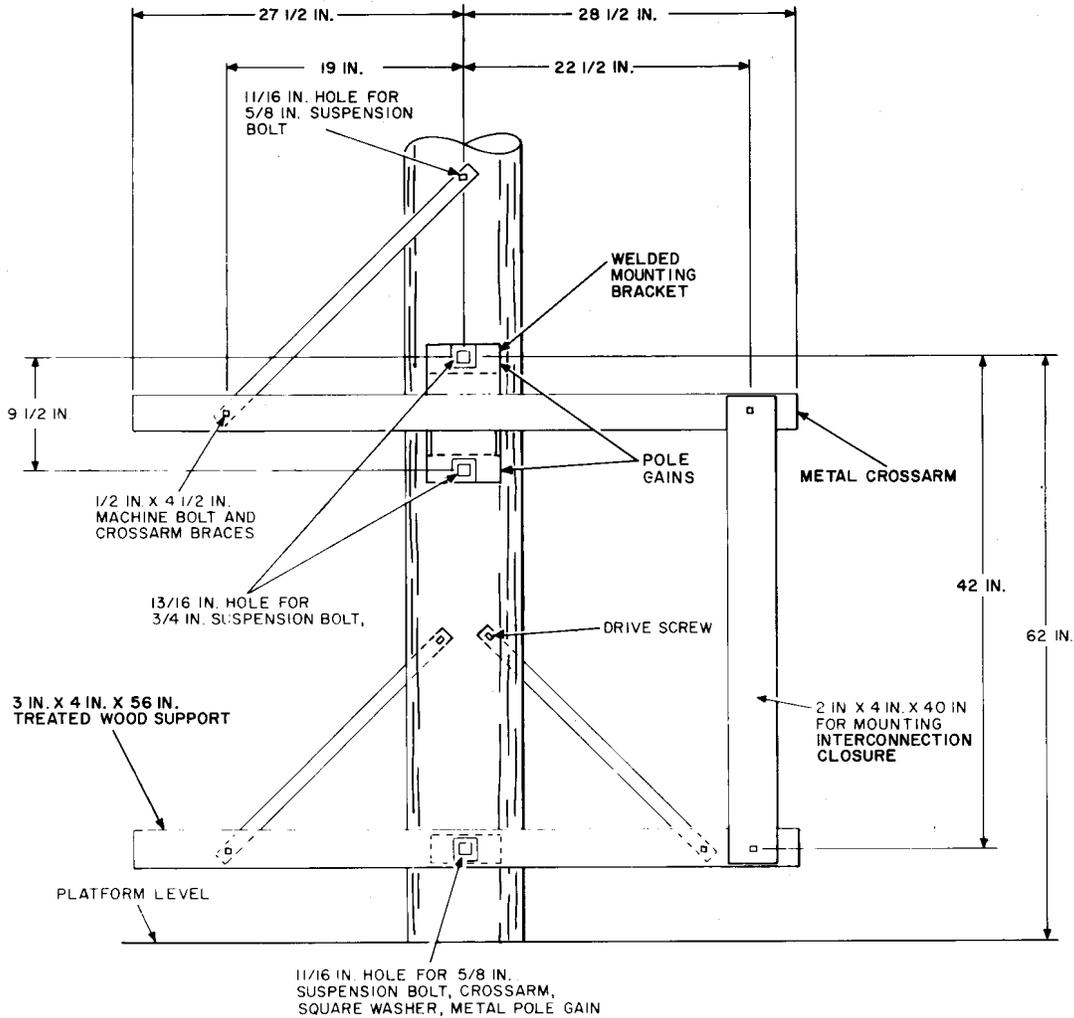

Fig. 10—AT-8783B Metal Crossarm For Mounting One RT Cabinet
5.04 Bore 11/16-inch and 13/16-inch holes in the pole for attaching the crossarms as shown in Fig. 10. The top crossarm may be used as a template for locating the 13/16-inch holes if the crossarm is held level. Ensure that all three holes are drilled perpendicular to the face of the pole.
5.05 Place the top metal crossarm on the pole. Ensure that the two metal pole gains are used behind the support bracket. Use the carpenter's level to keep the crossarm level as the nuts are tightened. Use a 3/4-inch suspension bolt and two pole gains per Fig. 10.
5.07 Attach the crossarm braces to the crossarms using the hole marked "brace" in the case of the top crossarm. The braces must be attached to the side of the crossarm nearest the pole as shown in Fig. 10. Tighten all bolts and nuts.
5.08 Attach the crossarm braces to the pole as shown in Fig. 10, keeping the crossarms level. Attach the top crossarm brace to the front of the pole using a 5/8-inch suspension bolt. Attach the bottom crossarm braces to the rear of the pole using driverscrews.
5.09 Using the holes indicated on the crossarms, mount a 2- by 4- by 40-inch wooden support to span the distance between crossarms. The 2 by 4 is required for mounting a 40-type cabinet (interconnection closure) as shown in Fig. 10. Proceed to paragraph 6.01.